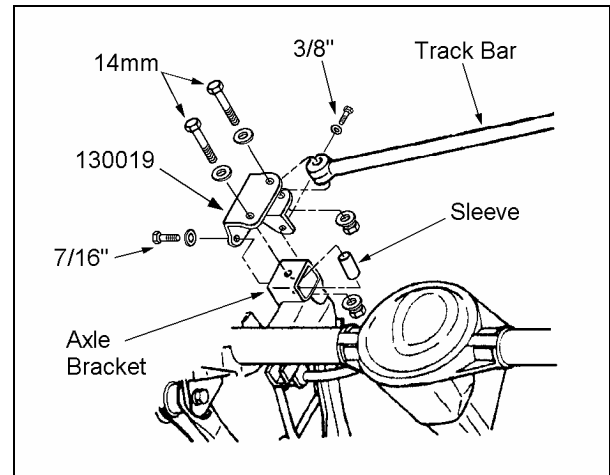

Figure 8
1. ☐ Place track bar bracket 130019 on top of the axle bracket as shown in figure 8. Insert a 14mm bolt through
3. ☐ Reinstall the track bar bracket and attach it to the axle with the sleeve and hardware from kit 860072. See Figure 8. Tighten to specifications.